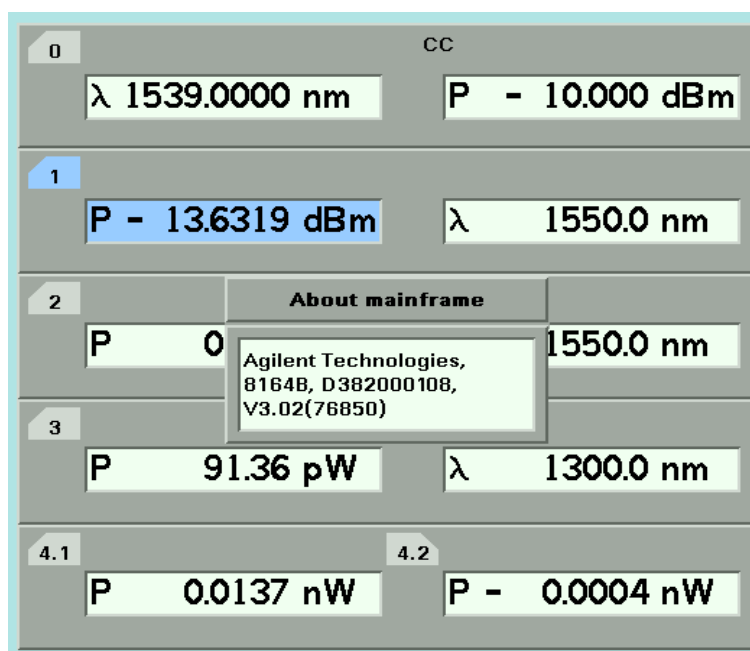

Figure 39 Viewing Information About the Mainframe
- 2 Move to the *<About Mainframe>* menu option and press *Enter*. You see a box displaying information about your mainframe, see Figure 39 . The manufacturer, part number, serial number, and firmware revision of the mainframe are listed.